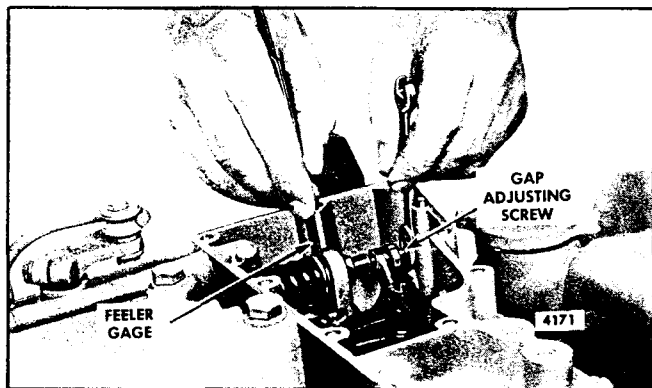

Fig. 9 - Adjusting Governor Gap
4. Insert a .006" feeler gage between the spring plunger and the plunger guide as shown in Fig. 9. If required, loosen the lock nut and turn the adjusting screw in or out until a slight drag is noted on the feeler gage.